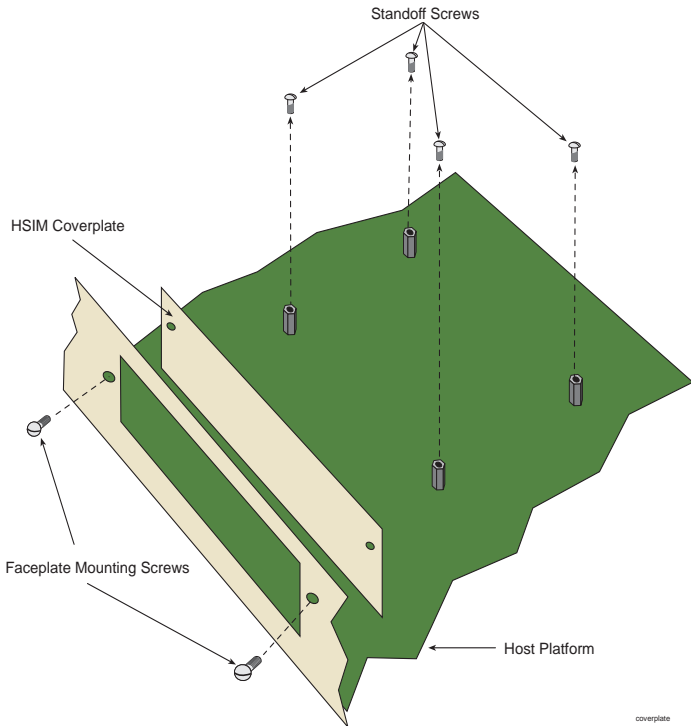

Figure 2-1 Removing the HSIM Coverplate
5. Refer to **Figure 2-1** and remove the two faceplate mounting screws and the HSIM coverplate. Save the screws.
6. Refer to **Figure 2-1** and remove the four standoff screws. Save the screws.